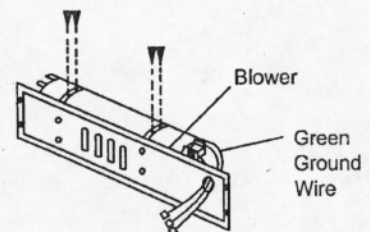

Figure 11-F Attaching Bracket To
3. Attach the two brackets to blower housing using four white screws provided in blower kit (2 for each bracket) (see Figure 11-F). Tighten screws securely. Then guide the green grounding means wire and downlead of motor through the rubber capped hole.